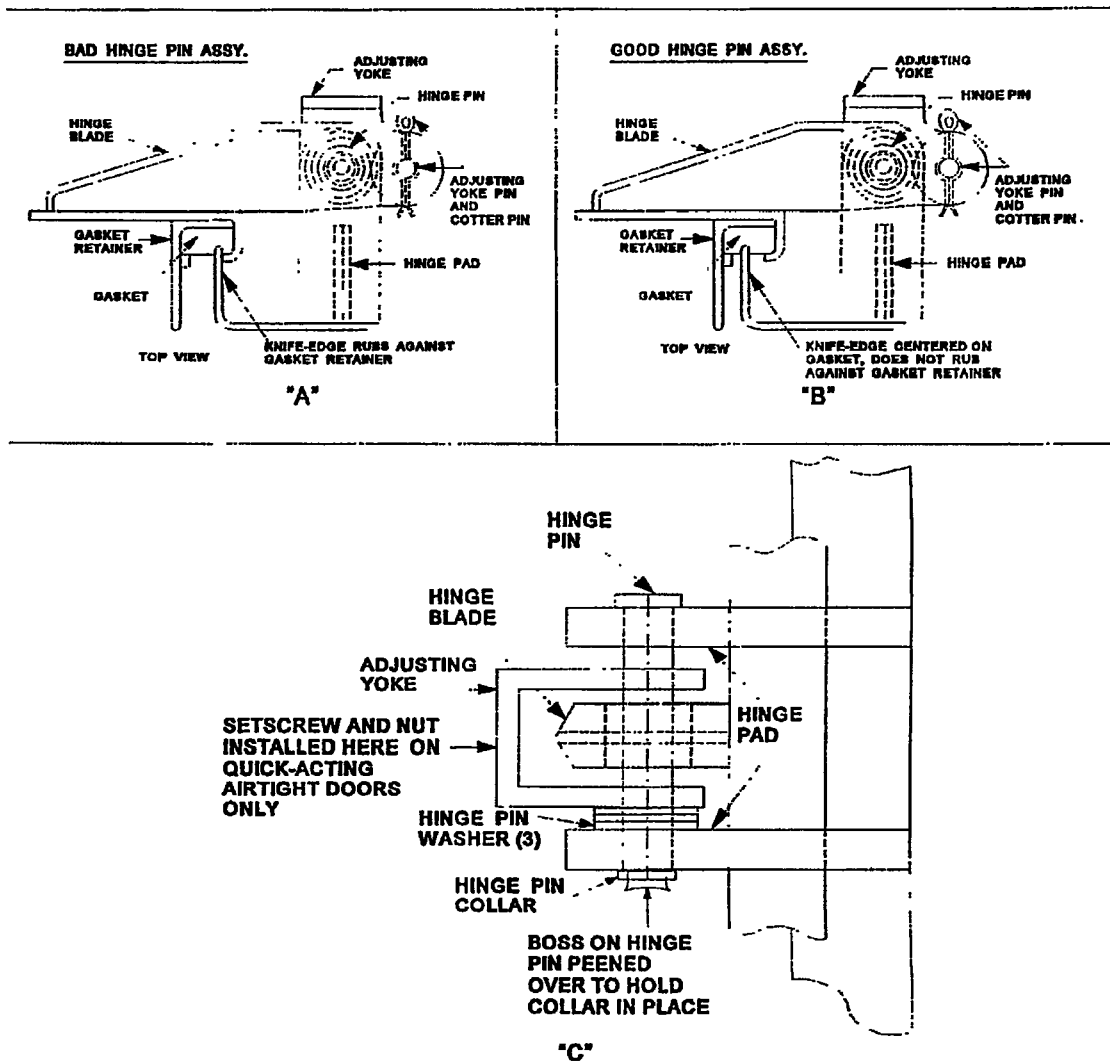

Figure 600-2.9. Hinge Pin Assemblies
- d. Visually inspect the hinge sleeves and hinge pins for wear. With the door opened, grasp the door from the hand lever side, and push toward the hinged side. The door should not give more than approximately 3/16 inch. If it does, either the hinge pins and/or washers are worn, or the holes for the hinge pins have become enlarged. Do not confuse hinge pin wear with normal play in the hinge blades. Another indication of hinge pin wear is if the metal channel surrounding the gasket on the door side is rubbing against the knife-edge, or if the door panel rubs one or more side dogs when opening or closing. See figure 600-2.9, "A". A good hinge and alignment are illustrated in figure 600-2.9, "B". Replace the hinge pin washers and/or pins if any of the following conditions exist:
4. The hinge pin washers are worn thin to approximately 1/32 inch. New washers are 1/16 inch in thickness. See figure 600-2.9, "C",